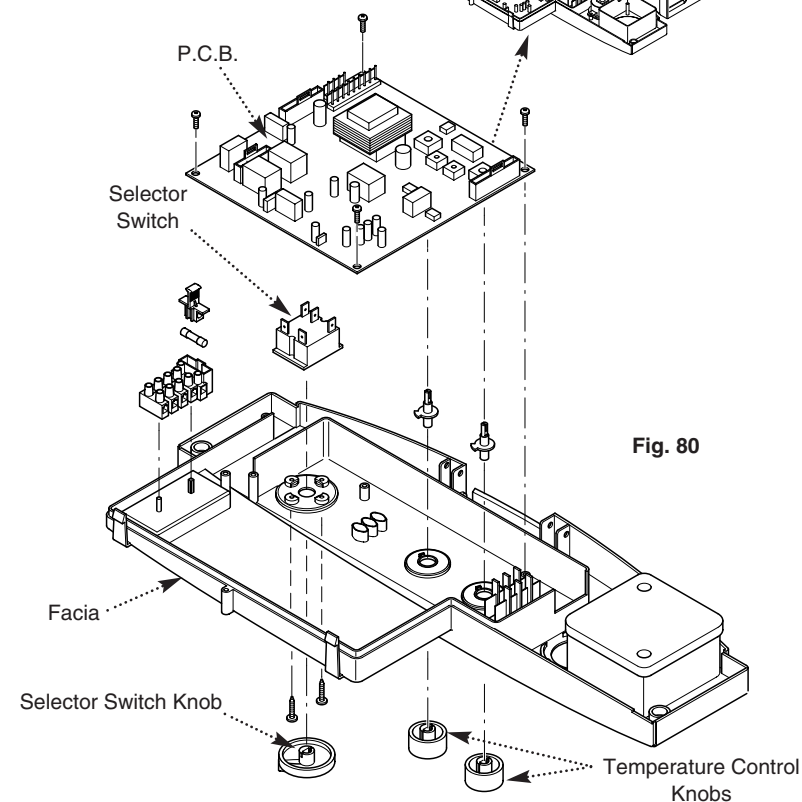

Fig. 80
1. Note the settings of the temperature control knobs and carefully pull them off the facia (Fig. 80).
4. Undo the securing screws and remove the P.C.B. Reassemble in reverse order, ensuring that the temperature controllers are reset to their previous positions (Fig. 80).
1. Note the setting of the selector switch knob and carefully pull it off the facia (Fig. 80).
4. Remove the screws securing the switch to the facia panel (Fig. 80).